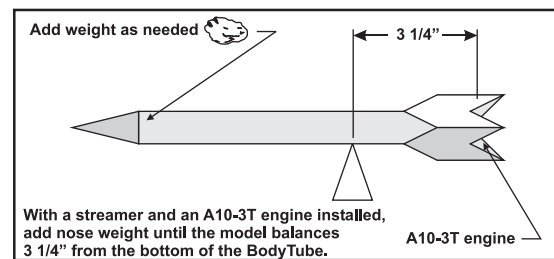

Figure 14
15. Taking the **Clay Weight**, roll it into an irregular ball and insert into the tip of the Nose Cone. **NOTE: Do NOT omit this added weight. This model rocket will NOT be stable without this added weight!** To verify the proper amount of nose weight, pack the streamer into the body, place the Nose Cone onto the Body Tube and place a **new** A10-3T motor into the Engine Tube and balance it as shown in **Figure 14**. The balance point should be about 3 1/4" from the bottom of the Body Tube (+/- 1/4"). Add or remove clay, as necessary, to achieve this balance point. Once you've found the proper balance point, apply a film of glue over the clay, securing it inside the Nose Cone.